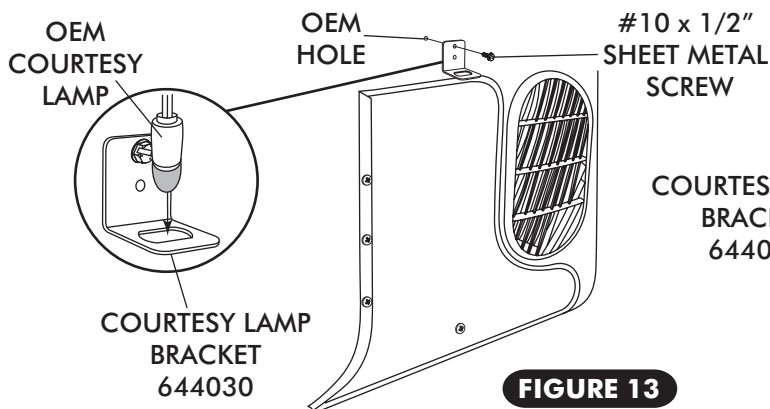

FIGURE 13
- ☐ USING OEM HOLE, SECURE DRIVER SIDE COURTESY LAMP BRACKET UNDER DASH USING #10 x 1/2" SHEET METAL SCREW AS SHOWN BELOW IN FIGURE 13.